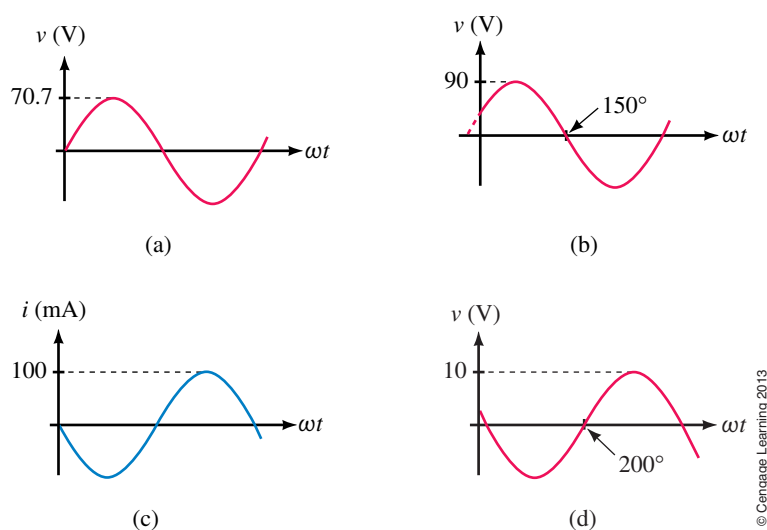

FIGURE 16-49
12. Express the voltages and currents of Figure 16-49 as time domain and phasor domain quantities.